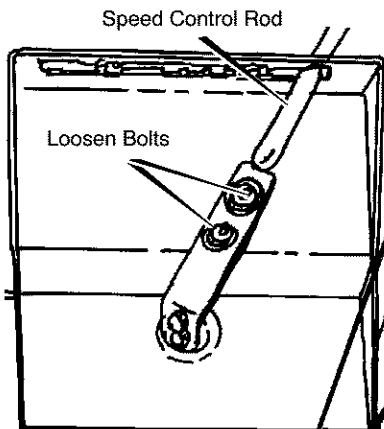

Figure 30
2. Loosen the **bolts** on the **speed control rod** (see Figure 30).
4. Tighten the **bolts** on the **speed control rod** (see Figure 30).